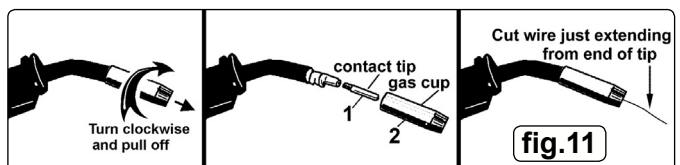

fig.11
- 7.4. **CONTACT TIP** The contact tip is a consumable item and must be replaced when the hole becomes enlarged or oval. The contact tip MUST be kept free from spatter to ensure an unimpeded flow of gas. Refer to fig.11 and section 3.9 for removal and replacement.